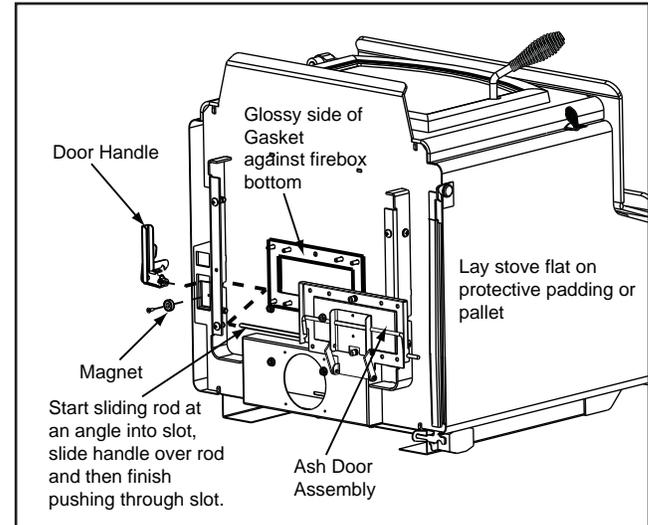

Figure 22.2
It is important the gasket is not put on upside down as it could compromise its sealing capabilities. Figure 22.2.
Slide the ash door over the 8 screws protruding from the bottom of the stove. Secure with nuts and washers provided. **Figure 22.2.**
6. Install magnet using a Phillips head screw driver. This magnet will hold the door handle in an open position which in turn holds the ash door open so ashes can be brushed into the ash drawer. **Figure 22.2.**
1. Follow steps 1 through 6 on page 22. See also **Figures 22.2 and 22.3.**
1. Follow steps 1 through 3 on **page 22**. See also **Figure 22.2**.